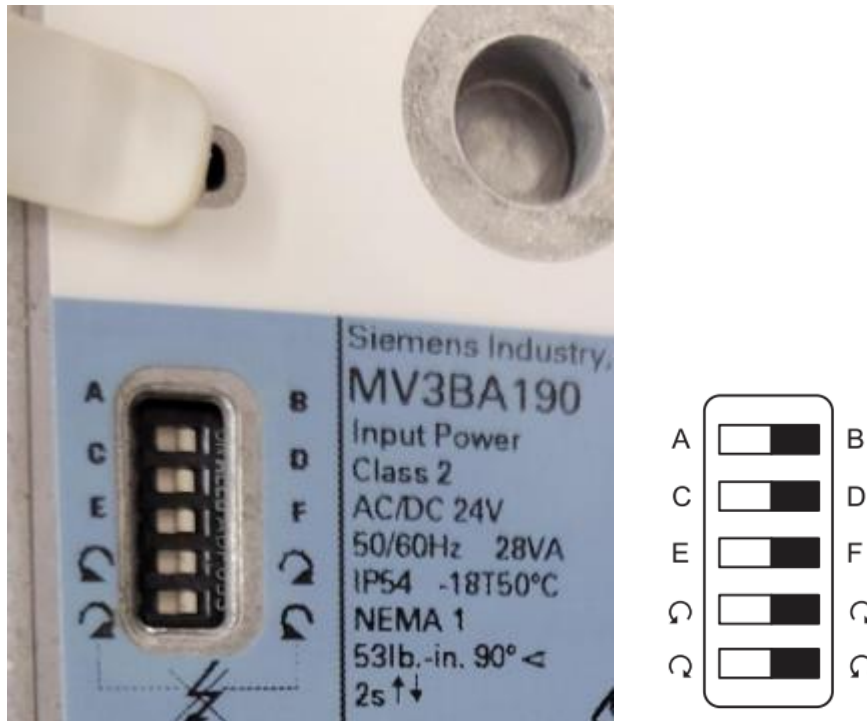

Figure 11-6 – Correct dip switch orientation on DigiTemp Jr actuator
- g. Ensure dip switches are positioned to the right per Figure 11-6.